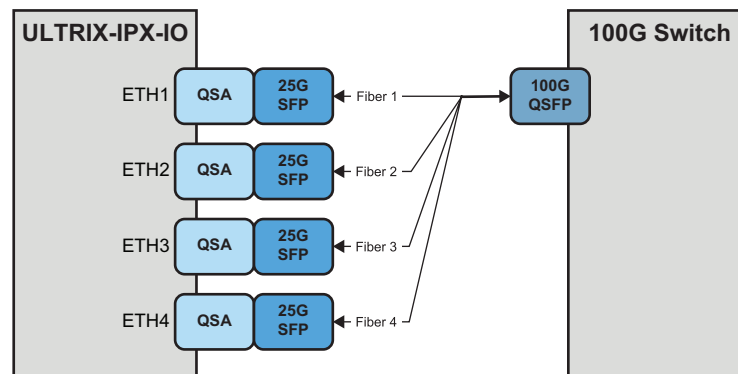

Figure 40 Workflow — QSA/SFP to Breakout/QSFP and 100G Switch with Breakout
**Figure 40** shows a simplified workflow where the ULTRIX-IPX-IO provides bi-directional communication via four QSA (QSFP to 25G SFP adapter) using fiber cables connected to a 100G ethernet switch. Notice that this workflow does not support a redundant switch. If a separate networks is required, configure primary/secondary ports to different VLANs or subnets.